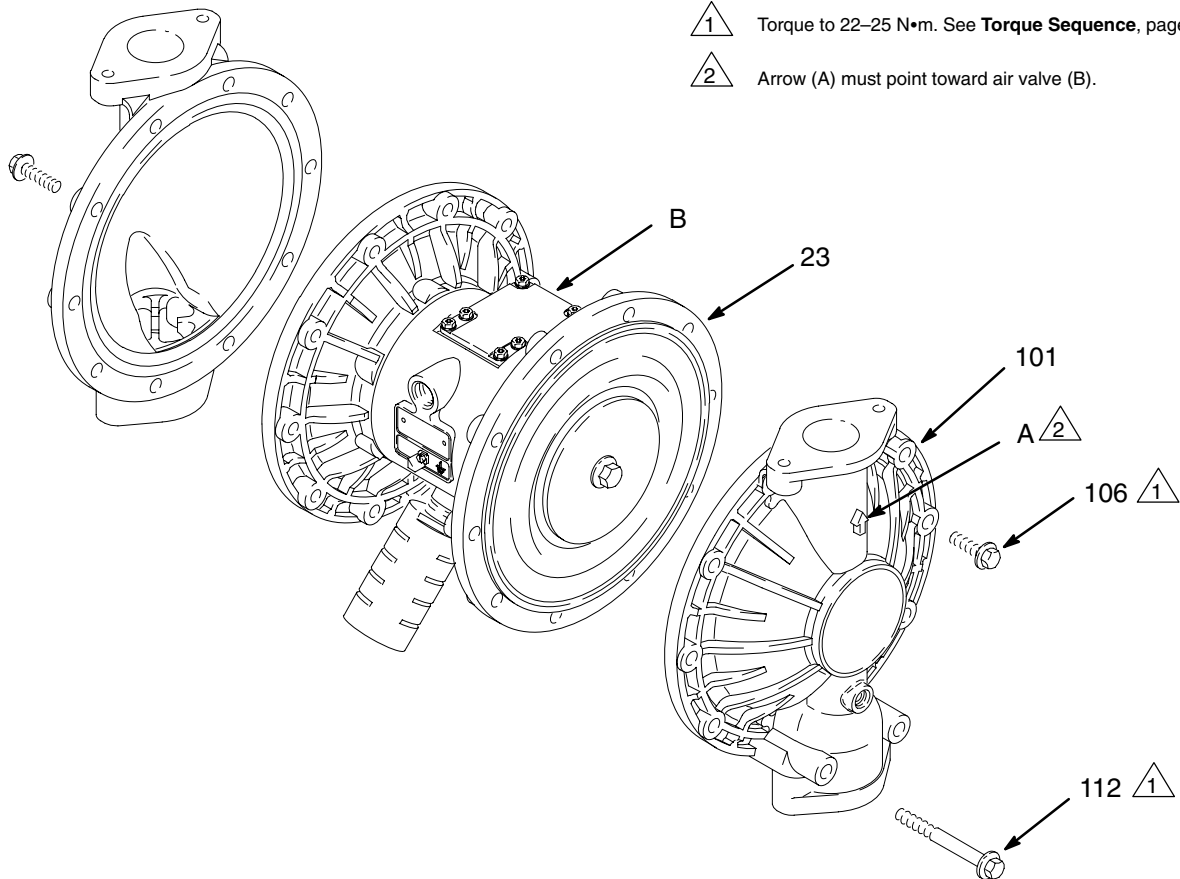

Fig. 11
3. Using a 13 mm socket wrench, remove the screws (106 and 112) holding the fluid covers (101) to the air covers (23). Pull the fluid covers (101) off the pump. See Fig. 11.
- 2 Arrow (A) must point toward air valve (B).
2. Install the diaphragm assembly on one end of the shaft (24) as follows:
- a. Install the o-ring (108*) on the shaft bolt (107).
3. Grease the length and ends of the diaphragm shaft (24), and slide it through the housing (1).
5. Hold one shaft bolt (107) with a wrench and torque the other bolt to 27–34 N•m at 100 rpm maximum.
6. Align the fluid covers (101) and the center housing (1) so the arrows (A) on the covers face the same direction as the air valve (B). Secure the covers with the screws (106 and 112), handtight. Install the longer screws (112) in the bottom holes of the covers. See Fig. 11. Using a 13 mm socket wrench, torque the screws oppositely and evenly to 22–25 N•m. See **Torque Sequence**, page 28.